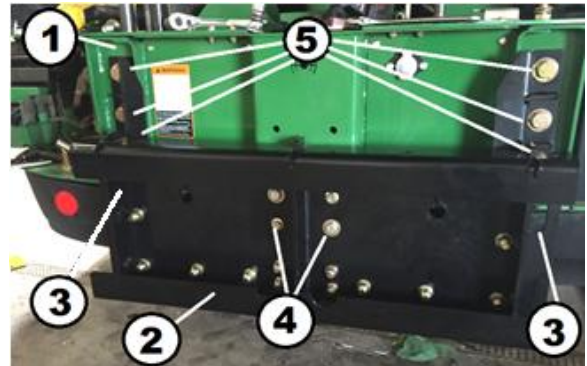
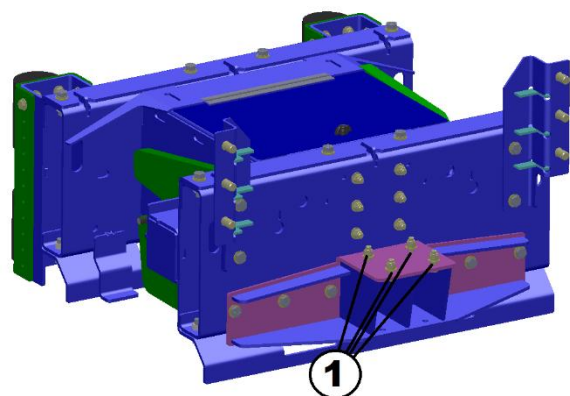
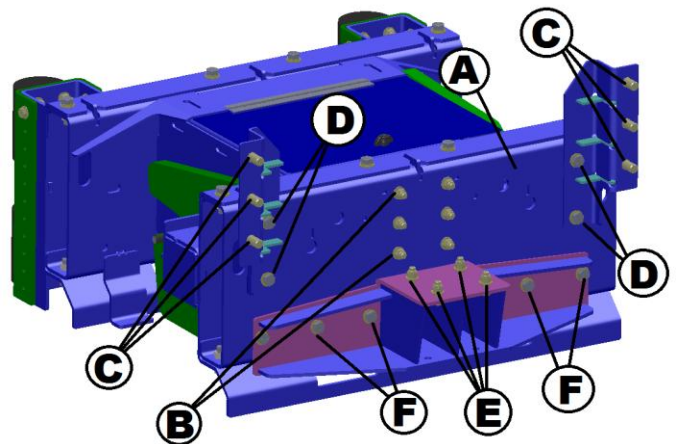

Figure 11. Base Plate Install
Figure 12. Bottom Support Bolts
Figure 13. Bolt Tightening Sequence
- 3.2 Align the loose adapter brackets with the holes in the rear plate of the main frame of the base machine as shown in Fig. 11.
If unable to reach from the top access hole to install the nuts on bolts at Key 4 of Figure 12, remove the bottom support (shown in Figure 13) and access the bolt locations through the hole in the mainframe. Reinstall the bottom support after the hardware at Key 4 of Figure 11 is installed. See Figure 12.
Tighten all hardware properly. See Figure 13.